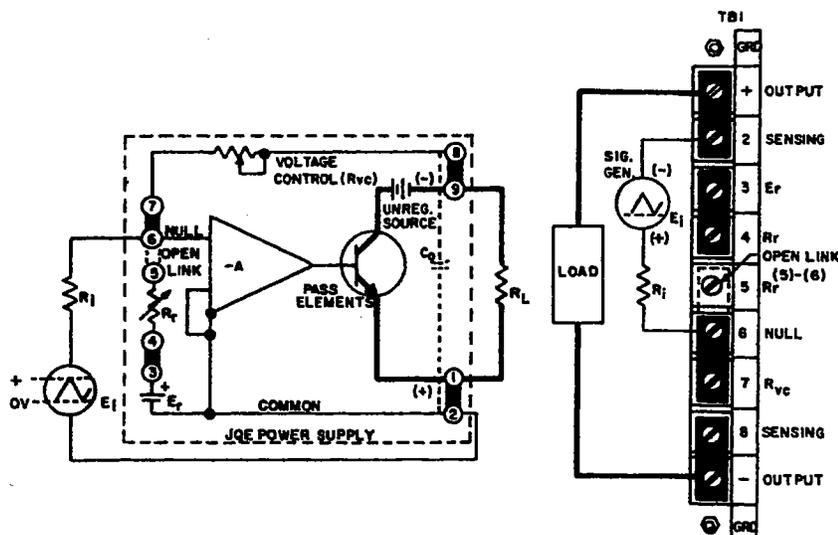

FIG. 3-9 JQE 1/4 Rack IN THE OPERATIONAL AMPLIFIER MODE.
**3-27** As seen from the expression (Eq. 5), if the ratio  $R_{VC} / R_r$  (which represents the closed loop gain of the system) is held constant,  $E_o$  will vary linearly with  $E_r$ , the external programming voltage. The above expression (Eq. 5) is seen to be the transfer function for an operational amplifier in the inverting configuration. The voltage programmed power supply does in fact become a unipolar power amplifier with very high power gain but with limited frequency response. (Refer to FIG. 3-9). The limited frequency response is largely due to the effect of the output capacitor ( $C_o$ ), acting as a low-pass filter and preventing the output voltage ( $E_o$ ) from varying rapidly. The output voltage may be varied over the full range, bounded on the high end by the maximum rated value. A practical example to illustrate component selection for remote control by voltage is given in paragraph 3-28.
3-28 Example: A Kepco Model JQE 36-3M is to be voltage programmed over its full range (0 to 36V) by a triangular, positive increasing source with a peak output voltage ( $E_i$ ) of 2 volts, which is able to deliver at least 1 mA control current. Since the required voltage gain is:  $E_o/E_i = 36/2 = 18$ , the ratio  $R_{VC}/R_i$  must also equal 18. If the internal voltage control is retained, in this case, since  $R_{VC} = 40K$  ohms,  $R_i$  must equal  $40K/18 = 2.22K$  ohms. FIG. 3-9 shows the JQE Power Supply as an operational amplifier and the necessary rear barrier connections for this mode of operation. As the input source varies from 0 to 2V, the JQE output voltage will change from 0 to 36 volts.